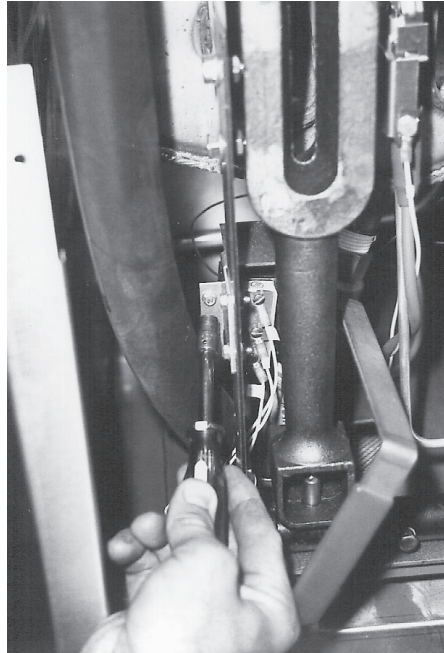

Fig. 34
11. With a ¼" socket, remove (2) holding screws securing the limit body to the mounting bracket. (Fig. 34)